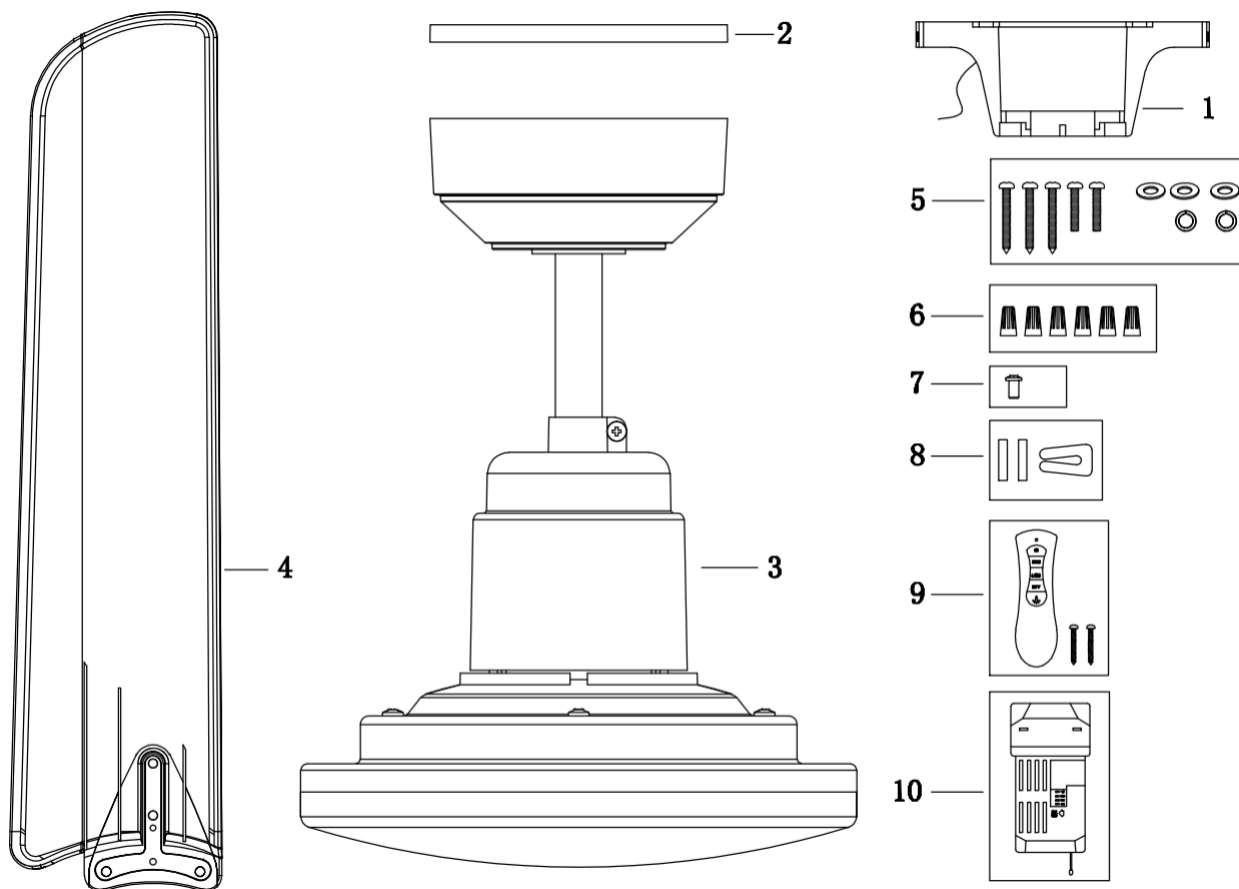

Fig. 1
- Identify the parts. Please refer to Fig 1.